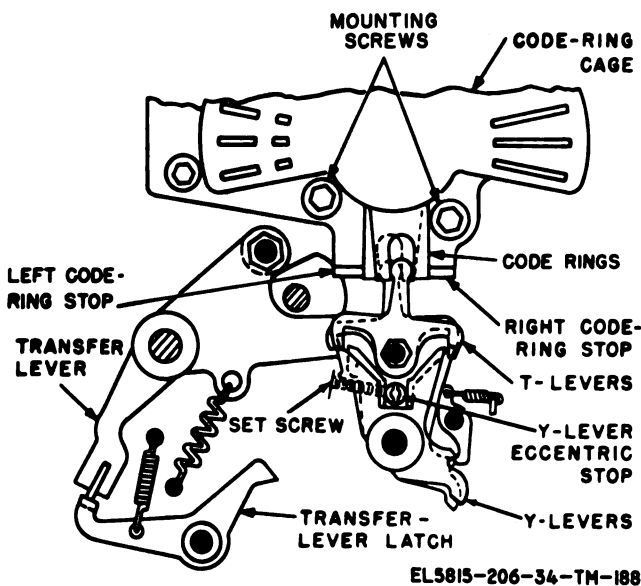

Figure 3-116. Y-lever eccentric stop preliminary adjustment.
**b. Adjustment.** Loosen the two mounting screws that secure the code-ring cage to the side casting (fig. 3-116). Turn the code-ring cage either clockwise or counterclockwise until the requirements in *a* above are met. Tighten the screws. Check related adjustments (para 3-142, 3-149, 3-150, and 3-209).
3-149. Y-lever Eccentric Stop Preliminary Adjustment. (fig. 3-116)